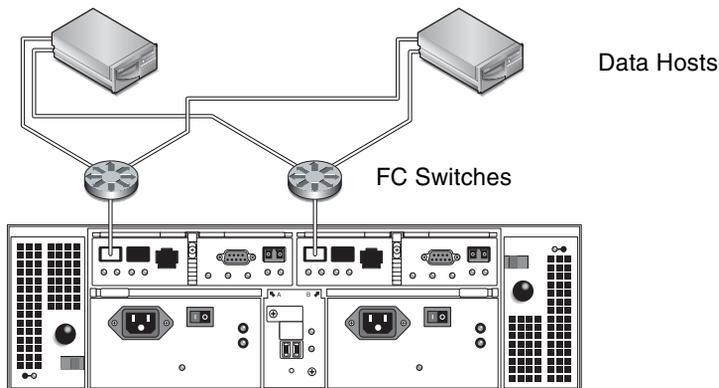

FIGURE 4-3 Connecting Data Hosts Through an FC Switch
3. Connect the other end of each cable to the external FC switch (FIGURE 4-3). (Refer to the switch vendor’s documentation for details.)